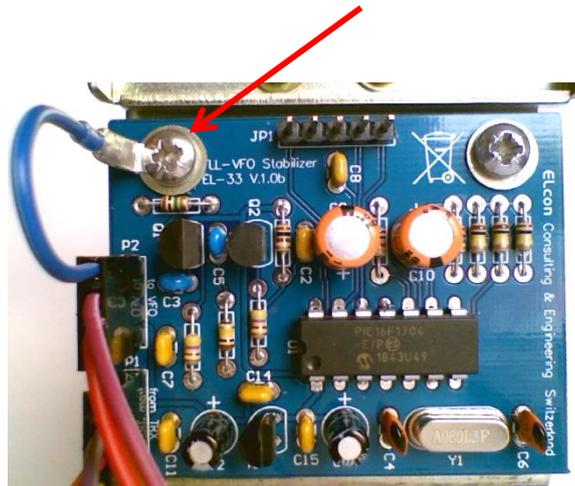

Figure 11
- Screw the assembled and optically inspected circuit board according to Figure 11 onto the spacer sleeves [Component 19]. Use the two spring washers [Component 20] directly under the screw head.